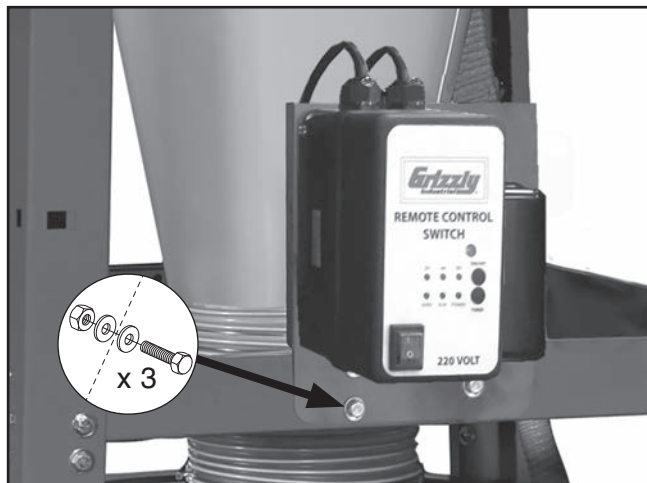

Figure 37. Switch mounted to stand.
43. Mount switch on stand, as shown in **Figure 37**, with (3) $\frac{3}{8}$ "-16 x $\frac{3}{4}$ " hex bolts, (6) $\frac{3}{8}$ " flat washers, and (3) $\frac{3}{8}$ "-16 hex nuts.